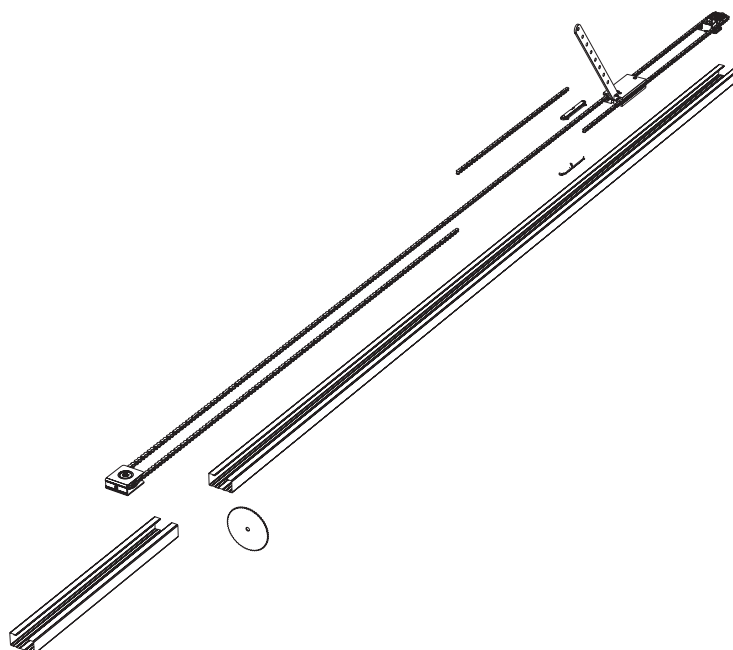

Figure 5
6. Cut the guide and shorten the chain to the required dimensions (Fig. 5).